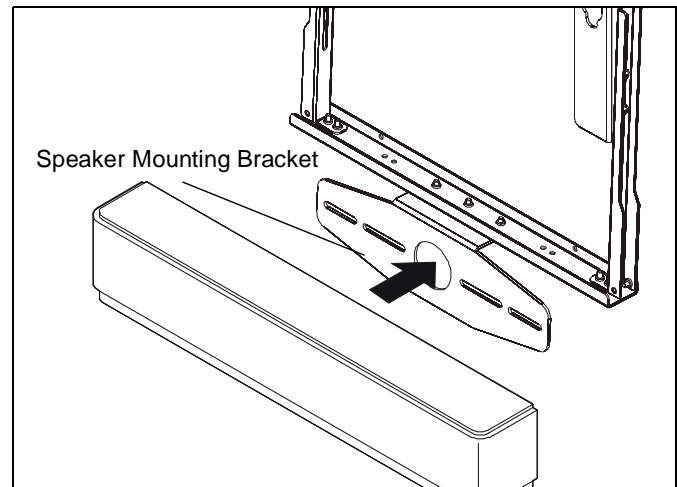

Figure 5
4. Mount speaker to speaker mounting bracket following the instructions provided with speaker. (See Figure 5)